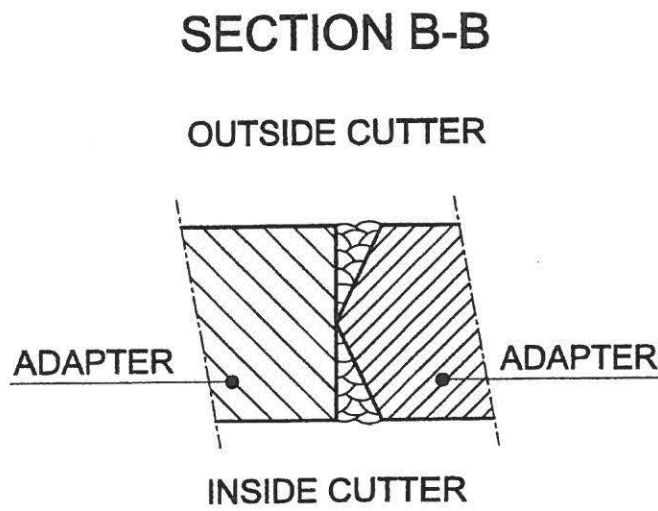

Figure 9.8
5. Complete the connection welds between the wings at the outer side of the cutter blade is shown in figure 9.8